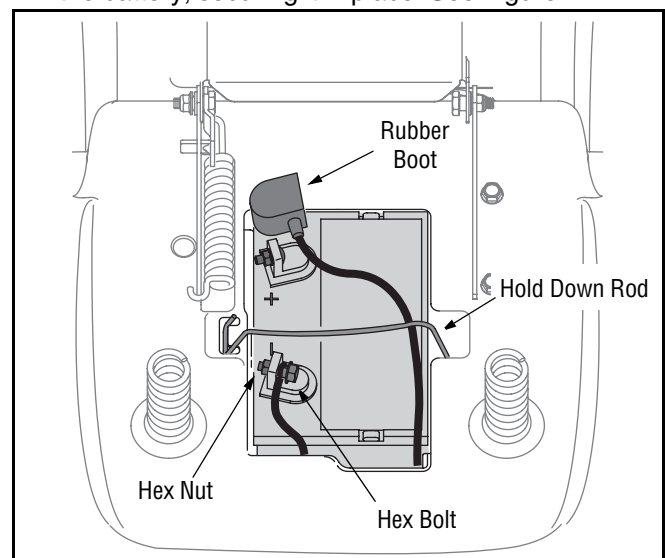

Figure 2
- Make certain the hold-down is in position over the battery, securing it in place. See Figure 2.